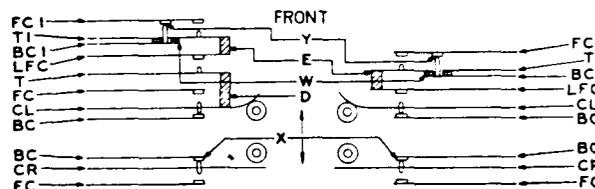

Fig. 1 - 311 Type Key Spring Arrangement
Exception: Fig. 1 — Plunger springs (CR) approximately 850 grams. Plunger springs (CL) approximately 575 grams. Spring (T) shall hold stud "D" against spring (CL). Springs (LFC) and (TI) tensioned against stud "E" so that washer "W" is against spring (BC1) and there is .040" separation between contacts on (LFC) and contact on adjacent facing spring. Spring (FC1) approximately 225 grams against long contact of (BC1).
1.18 *Non-Click* — Fig. 1 — Lever release shall not open “X” or “Y” contacts.